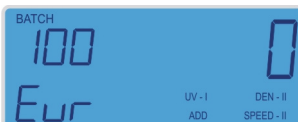

Fig.8
- Enter a number corresponding to the amount of banknotes for the desired batch size on the display. To enter the value, press the button «**BATCH**» several times. To adjust the BATCH value use buttons «**+10**», «**+1**», «**-1**». The set batch value is indicated in the upper left corner (Figure 8).
Press the “**ADD**” button to enter the summation mode. If the summation mode is on, the “**ADD**” indicator is be lit (Figure 8).